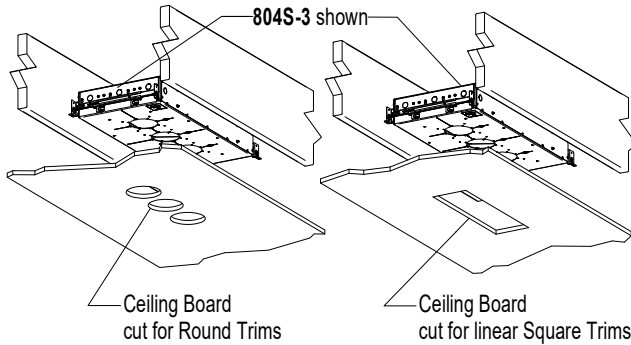

FIG 4.1 Install Ceiling Board
**Step 3** After making trim cutouts, install USG "Imperial" or equivalent ceiling board (drywall/sheetrock) and finish with one coat of USG sheetrock primer or equivalent - FIG 4.1 & 4.2.